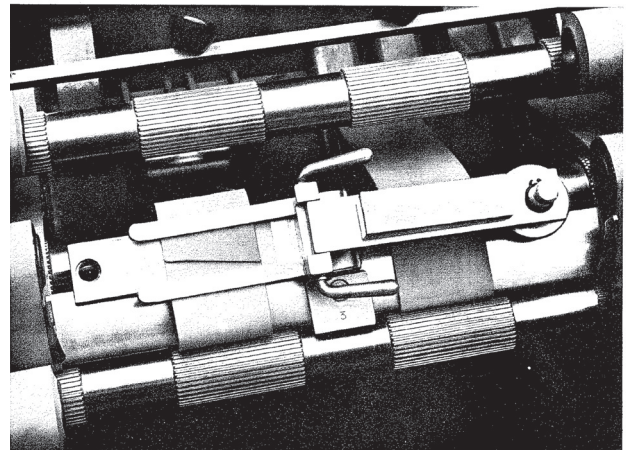

Fig. 4
3. Insert the press with coated apron in the machine (Fig.4).